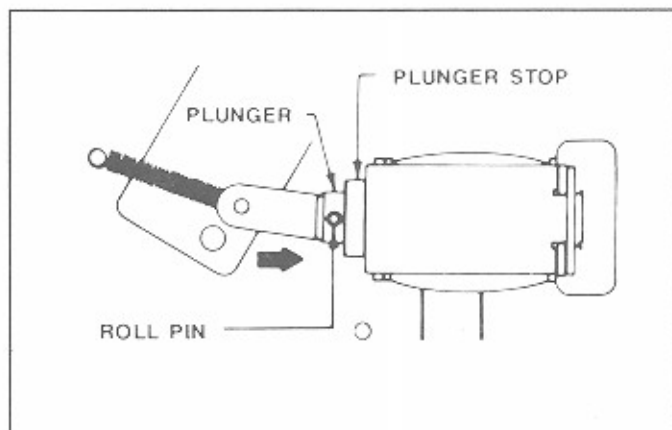

Figure 6-6. Sprag Assembly (Plunger)
1. Refer to figure 6-6. Depress solenoid plunger until the roll pin bottoms on the plunger stop (actuate by pressing on plunger).